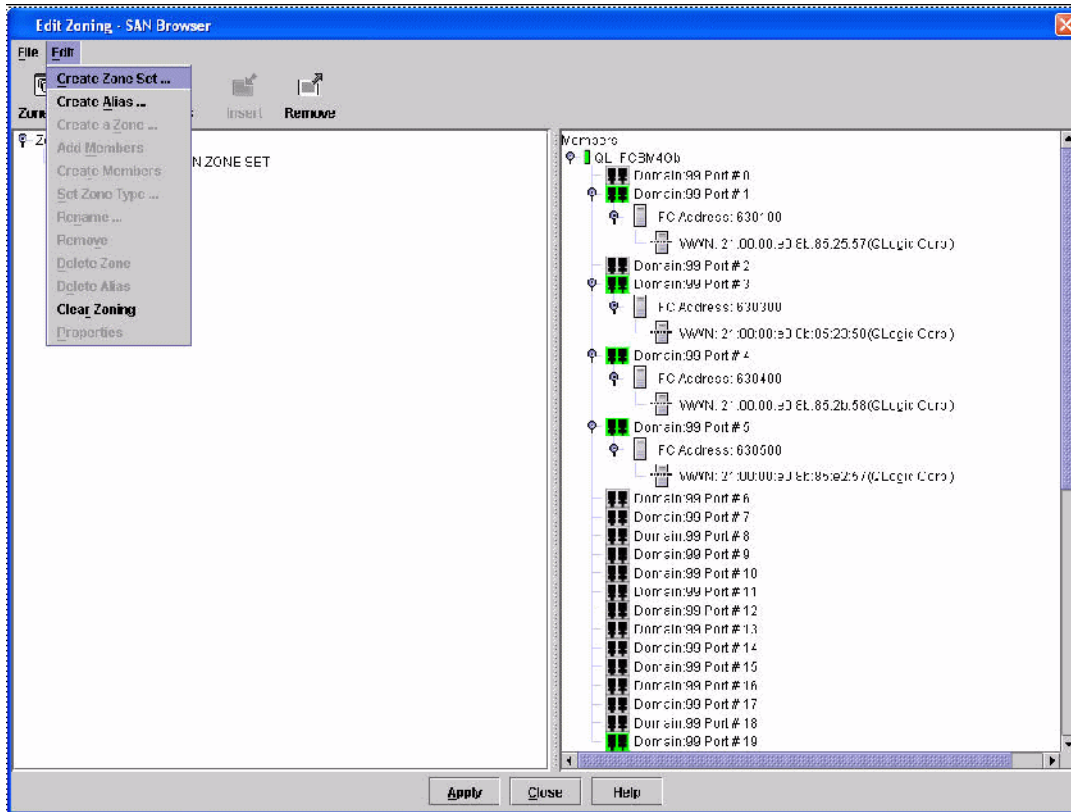

Figure 7-52 Edit Zoning- SAN Browser window
11. From the Edit Zoning dialog window, select **Edit** → **Create Zone Set** (Figure 7-52 on page 213).